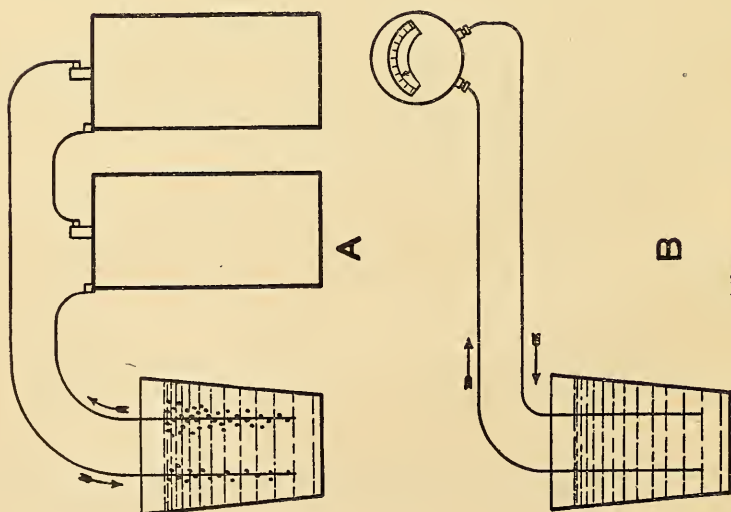

Fig. 1
5. Let us suppose that current from two dry cells is caused to flow through two platinum wires, the ends of which are immersed without touching each other in a glass of salt water. (A—Fig. 1.) The current must flow through the solution of salt and water, and in doing so will decompose the water into Hydrogen and Oxygen.
7. Now, if we should suddenly disconnect the wires from our dry battery and connect them to a sensitive electric measuring instrument we should find that a current flows through the wires **from the glass of salt water** (B—Fig. 1).